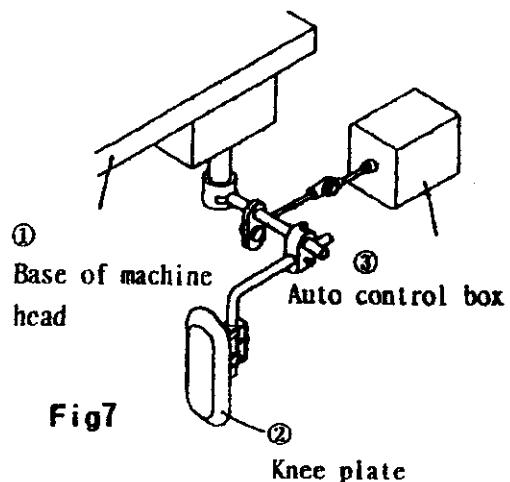

Fig7
- 2) Mount the foot lifter mechanism under the machine head base right end, as shown in fig. 7
- 3) Push the knee plate (2) to right side to lift the press foot or push the foot pedal backward slightly to carry the auto control box (3) for foot lifter